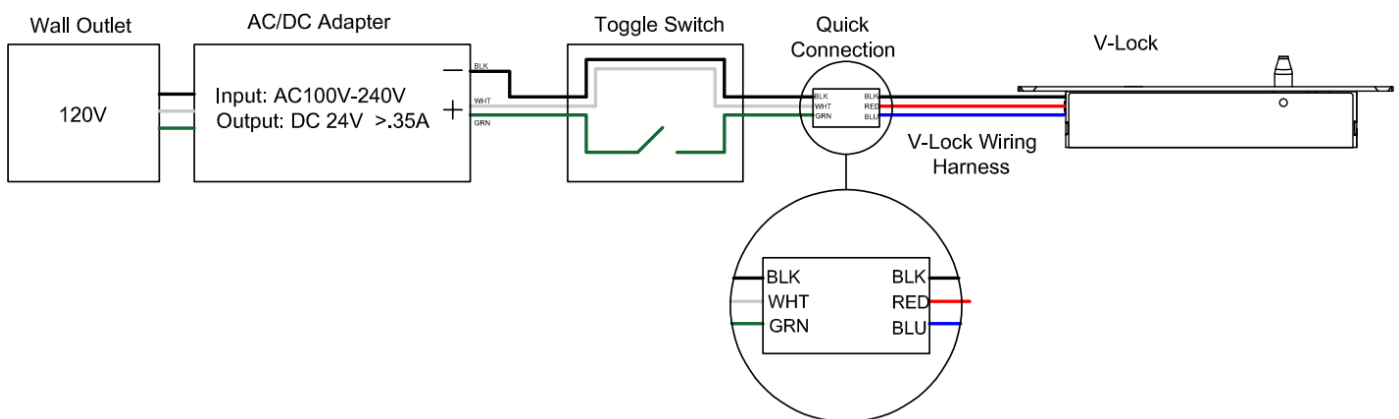

Figure 17:
3. Use the wiring diagram (Figure 17) to wire the V-Lock to the Testing Kit.